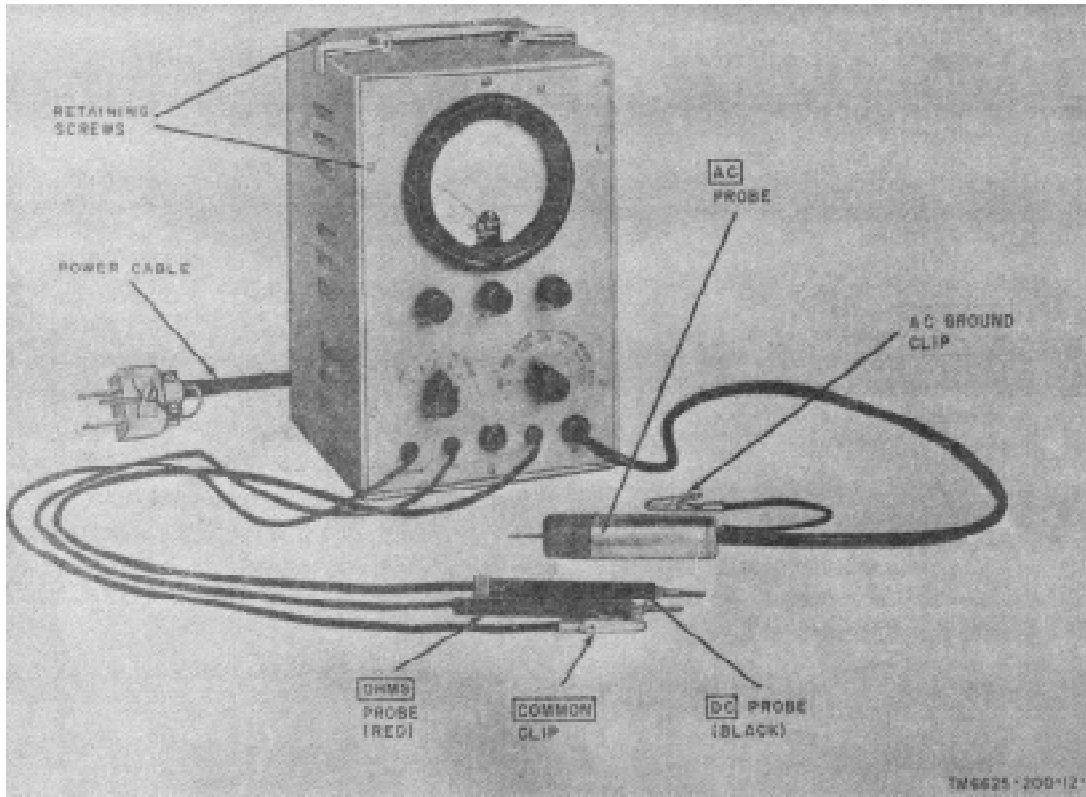
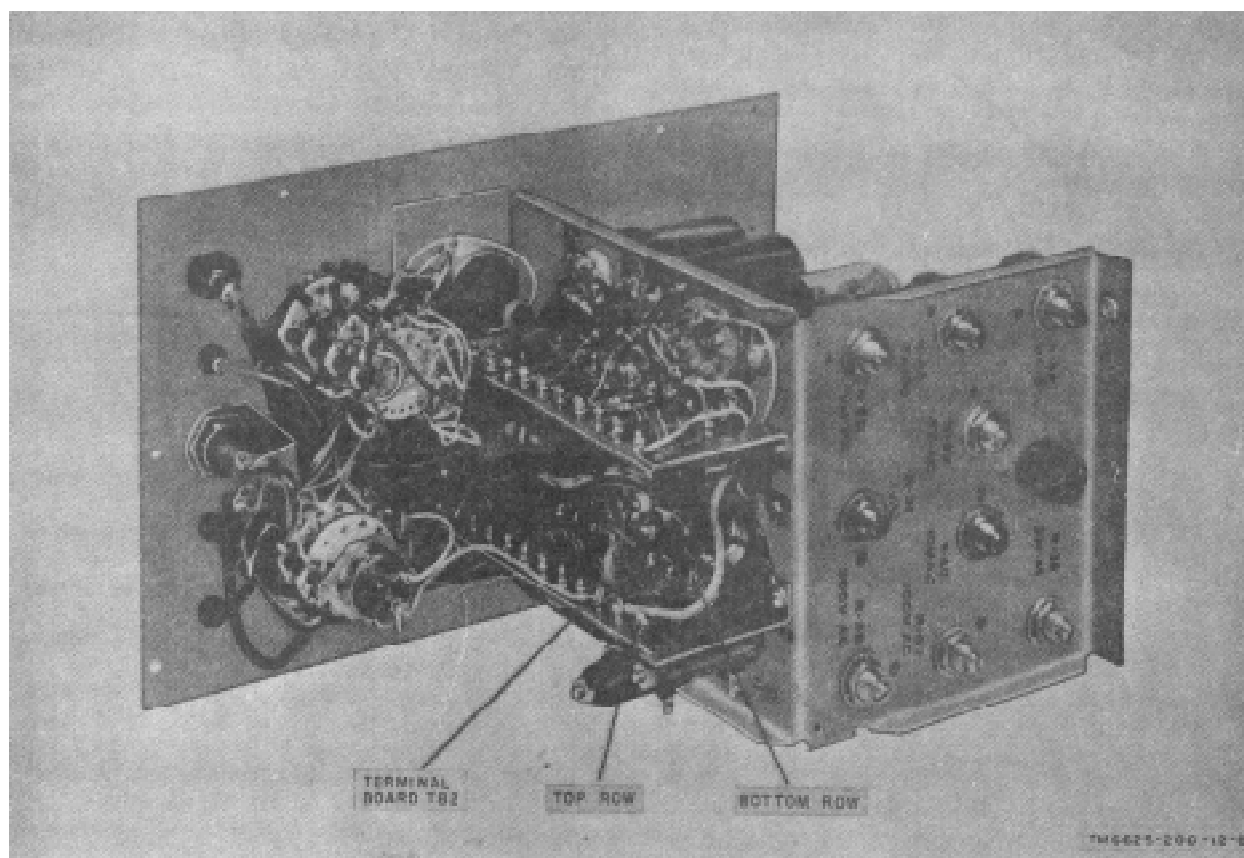

Figure 1-1. Multimeter ME-26B/U, less running spares.
Figure. 3-1. Multimeter ME-16B/U, ME-6C/U, and ME-26D/U chassis, bottom view, showing location of terminal board TB2.
1-4. Purpose and Use (fig. 1-1, 1-2)
The multimeter (figs. 1-1 and 1-2) consists of a chassis (figs. 3-1, 3-2, 4-1, and 4-2) contained in a metal case. All operating controls (figs. 3-2 and 3-3), the meter, and the pilot lamp are mounted on the front panel. The ME-26A/U test leads are mounted on a detachable connector and are attached to the underside of the multimeter. The ME-26B/U, the ME-26C/U, and the ME-26D/U test leads are permanently attached to the chassis and extend through the front panel. The ME-26B/U, the ME-26C/U, and the ME-26D/U power cables are contained in a storage compartment in the case. A rear cover is provided to reach the power cable, the fuse, and the storage compartment. The power cable and the fuse can be reached on the back of the ME-26A/U.
(3) Remove the chassis by gently sliding it forward out of the case, while lifting the power cable from the groove in the rear crosspiece.
(4) Remove the jumper which connects the first (rear) terminal on the bottom row of terminal board TB2 (fig. 3-1) and the second (next to rear) terminal on the top row; also remove the jumper which connects the second terminal on the bottom row and the third terminal on the top row.
(5) Connect a jumper from the first to the second terminal on the bottom row of terminal board TB2.
(6) Slide the chassis back into the case and replace the retaining screws.
(7) Replace the 1.5-ampere fuse with a $\frac{3}{4}$ ampere fuse.
(8) Replace the rear cover.
(1) Perform the procedures given in a(1), (2), and (3) above.
(2) Remove the jumper which connects the first (rear) and second terminals on the bottom row of terminal board TB2 (fig. 3-1).
(3) Connect a jumper from the first terminal on the bottom row to the second (next to rear) terminal on the top row.
(4) Connect a jumper from the second terminal on the bottom row to the third terminal on the top row.
(5) Slide the chassis back into the case and replace the retaining screws.
(6) Replace the S/3-ampere fuse with a 1.5-ampere fuse.
(7) Replace the rear cover.